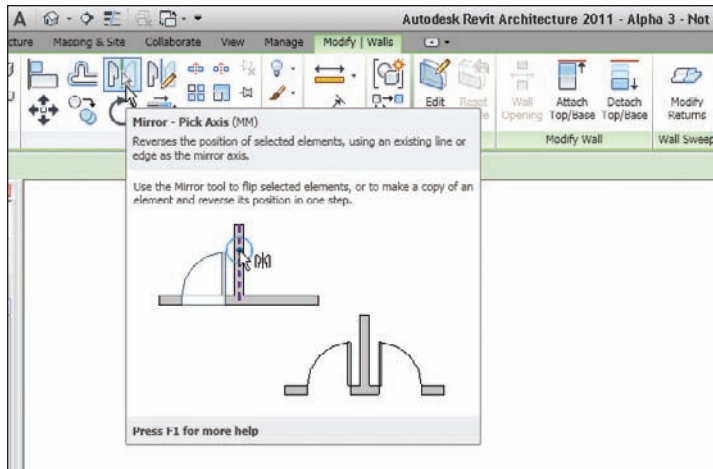

FIGURE 2.29 The Mirror - Pick Axis command is activated only when you have objects selected.
2. On the Modify | Walls tab, click the Mirror > Pick Axis button, as shown in Figure 2.29.